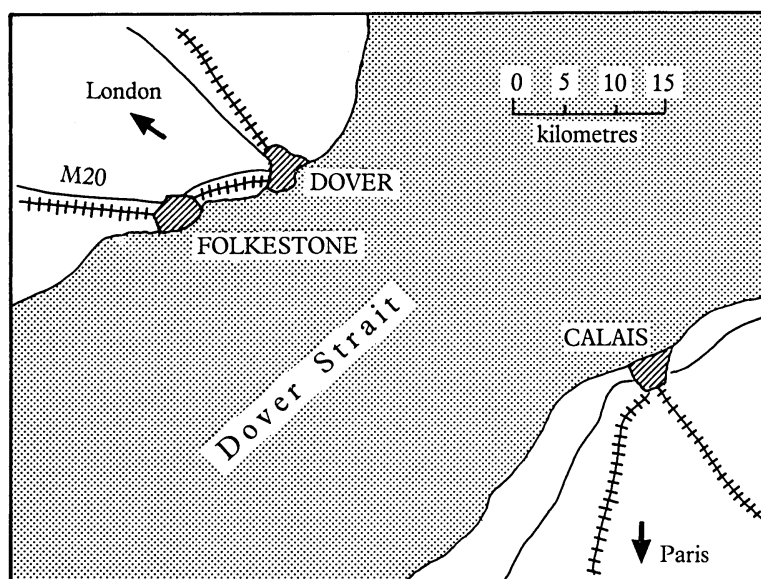

Figure 2 Dover Strait
- 1 Make a rough copy of the map of Dover Strait shown in Figure 2.